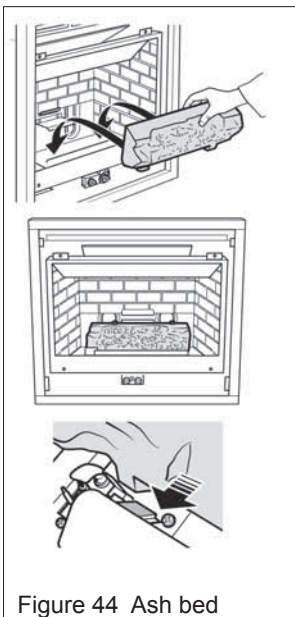

Figure 44 Ash bed
1. Place the ash bed in position. The projections at the front of the ash bed locate against the sloping metal stops immediately behind the burner. See figure 44.